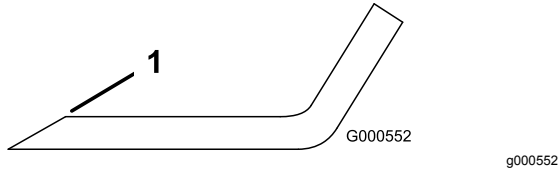

Figure 117
1. Use a file to sharpen the cutting edge at both ends of the blade (Figure 117).
**Note:** If the blade is not balanced, file some metal off the end of the sail area only (Figure 117).